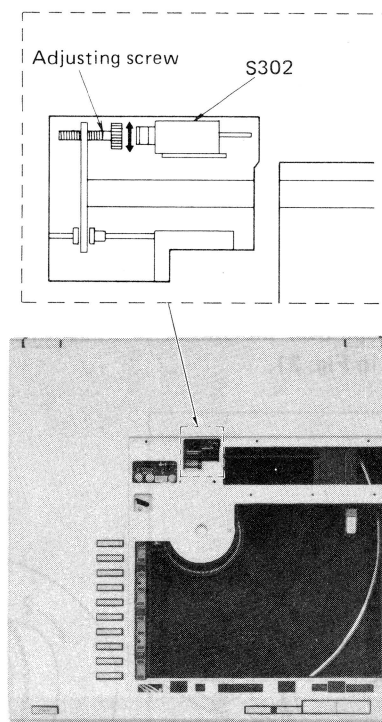

Fig. 24
3. Adjust by turning the auto start position adjusting screw. (See Fig. 24)